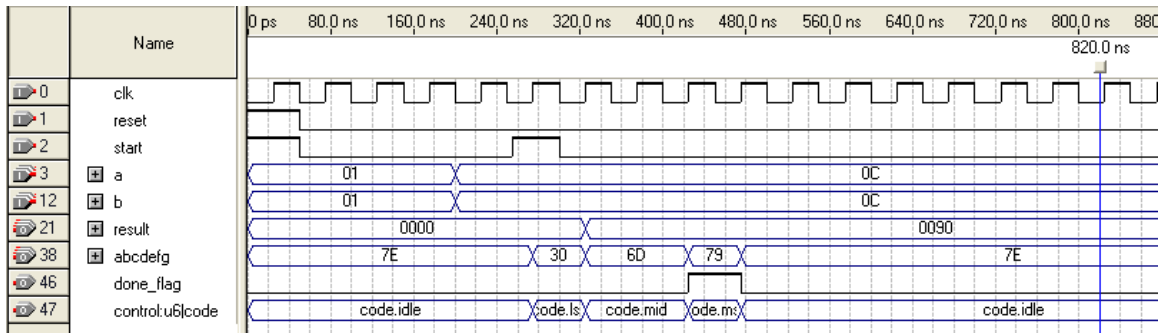

Figure 6-11.
6. Check to see if you get the same results shown in Figure 6-11.